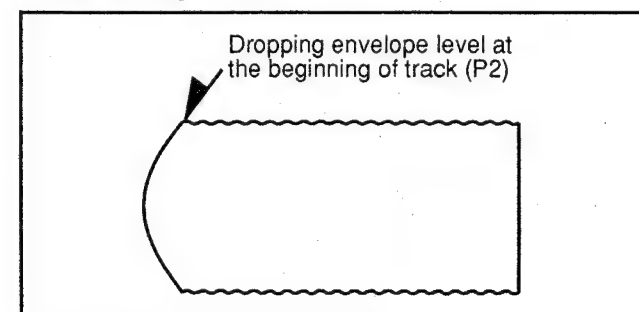
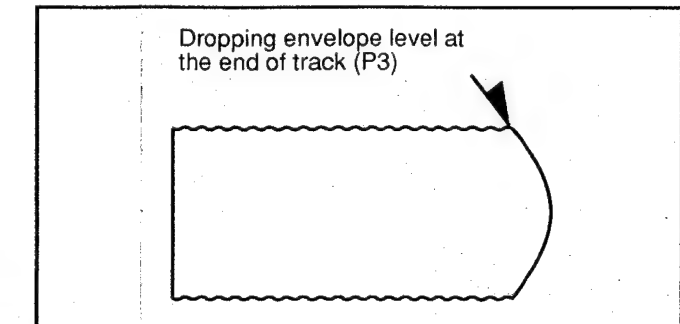
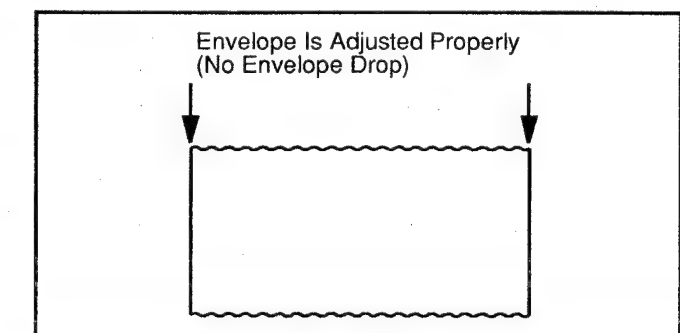

Fig. M17-2
Fig. M17-3
Fig. M17-4
3. When the scope display is as shown in Fig. M17-2, adjust the height of P2 so that the waveform looks like the one shown in Fig. M17-4.
4. When the scope display is as shown in Fig. M17-3, adjust the height of P3 so that the waveform looks like the one shown in Fig. M17-4.
5. When P2 and P3 are adjusted properly, there is no Envelope Drop at the beginning or end of the track as shown in Fig. M17-4. Remove the jumper wire.
shown in Fig. M17-3, adjust